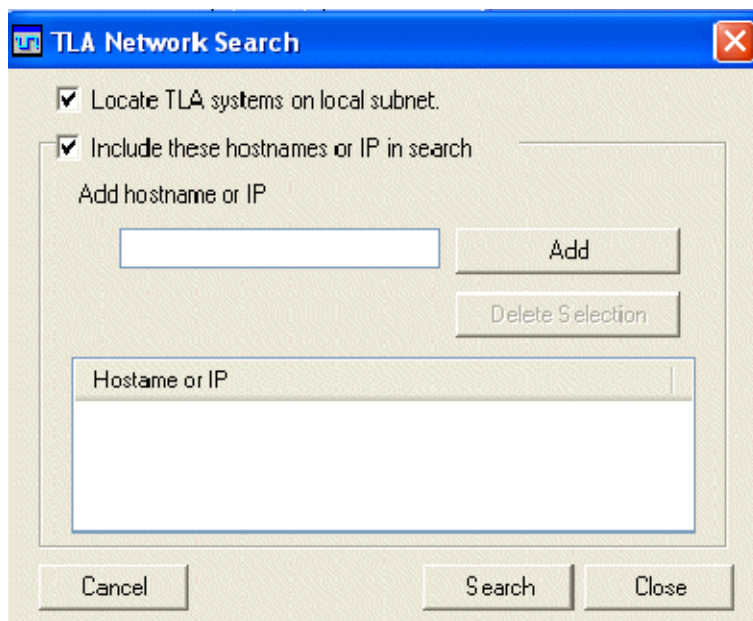

Figure 22: TLA Network Search dialog box
- a. Click the Search icon to open the TLA Network Search dialog box. (See Figure 22.)